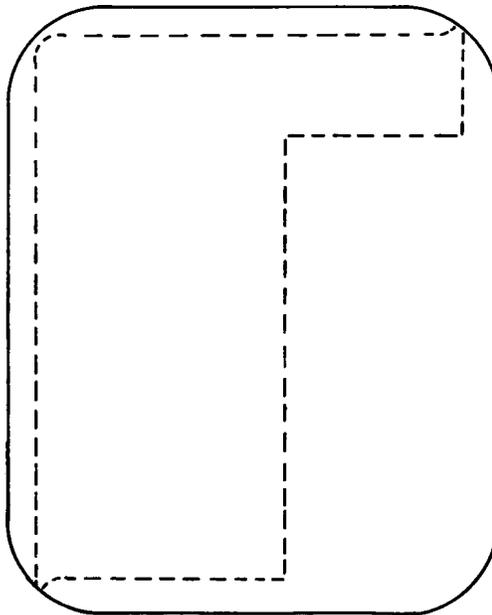

Figure 9 - Pincushion Effect
2.34 Pincushion Magnets (Figure 9)